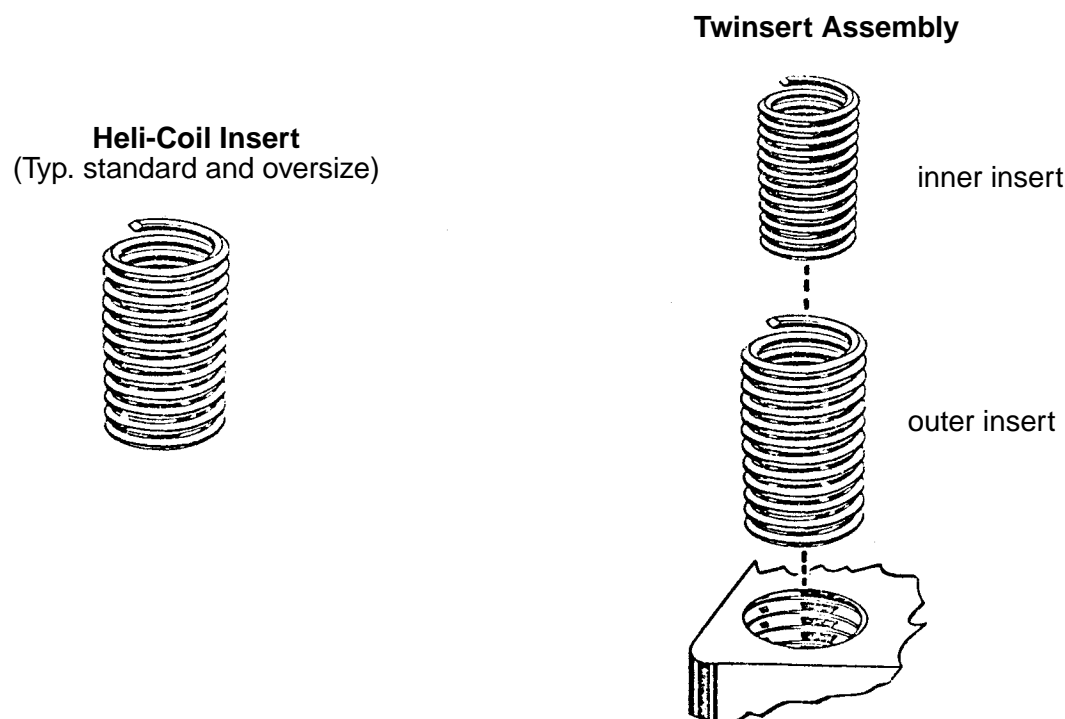

Figure 3 - General Description of Heli-Coil Inserts and Twinserts
- 4.1.3 Refer to Figure 3 for a general description of Heli-Coil insert and Twininsert assemblies.